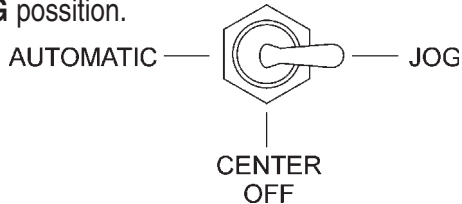

Figure 31. Manual Cylinder Jogging Switch
- To determine the pressure of the Hydraulic System, set the **Cylinder Stroke Control switch** (Figure 31) to the **JOG** position.